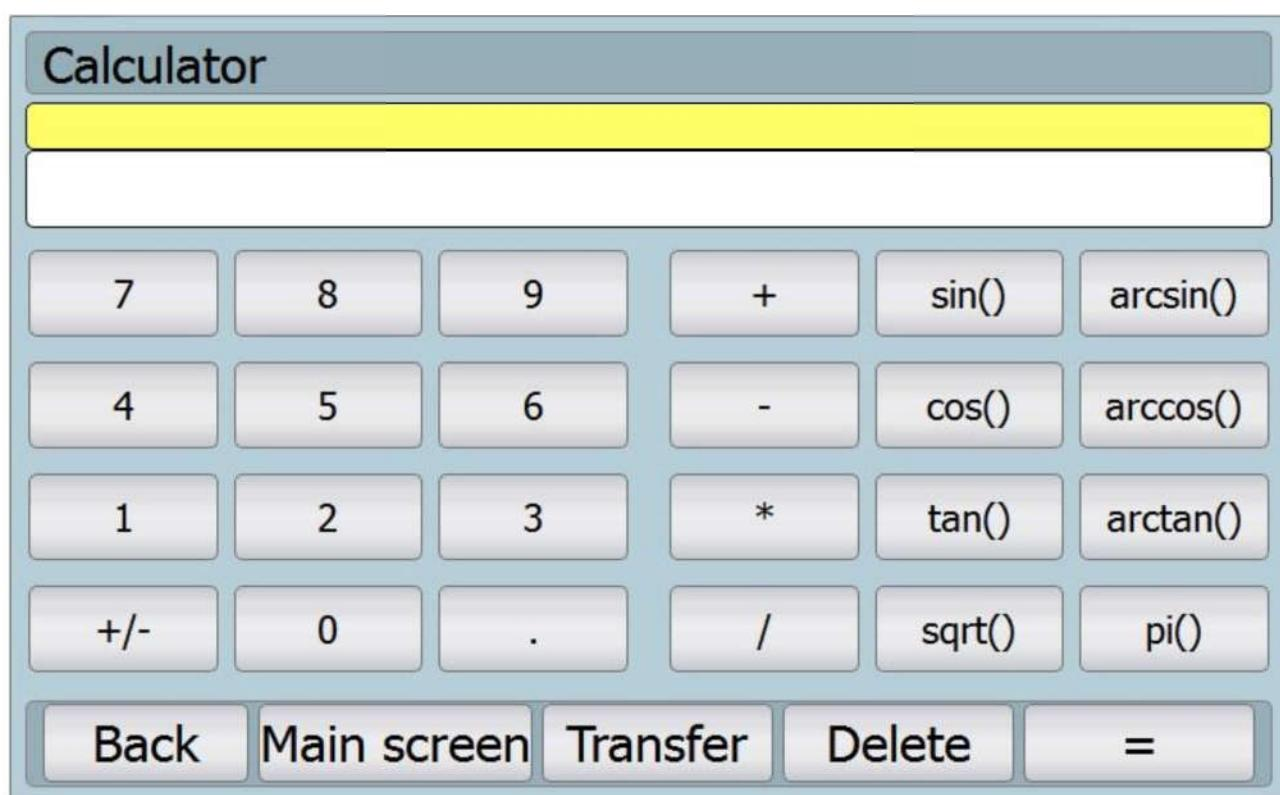

Fig. 15: Calculator
- ⑩ Calculator for individual calculators (see fig. 15: Calculator).
- ⑩ It contains goniometric functions.
- ⑩ Top panel (yellow) is used for the display of entry history and the panel below is used for the display of the results, inter-results, and entering the actual value.